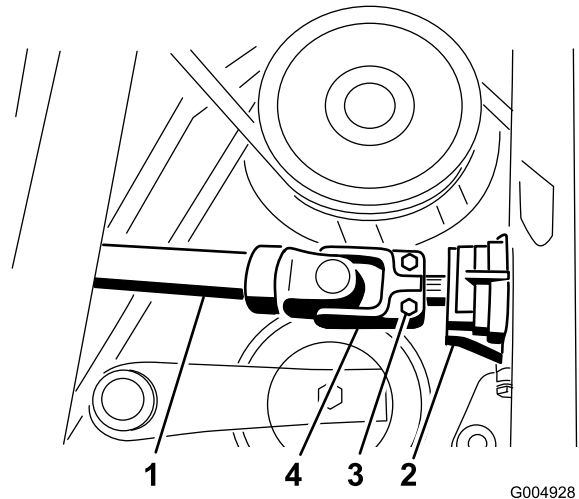

Figure 28
7. Slide the drive shaft onto the gearbox shaft (Figure 28). Install the roll pin and torque the bolts to 175-225 inch pounds.